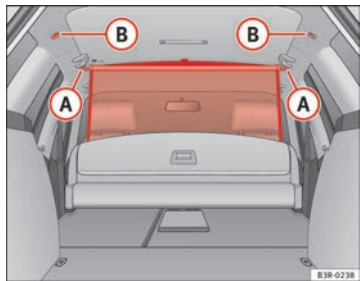

Fig. 120 Retainers for the net partition
- Engage the ends of the bar in the retainers **(B)** ⇒ Fig. 120.
- Engage the ends of the bar in the retainers **(A)** ⇒ Fig. 120.